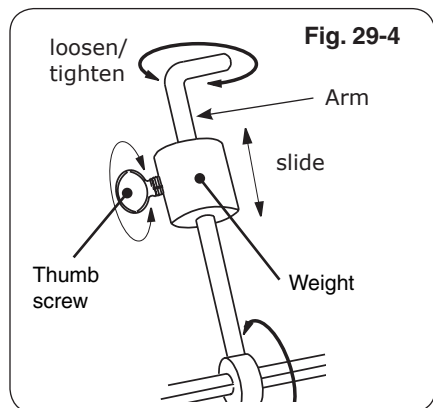

Fig. 29-4
7. Slide the counterbalance weight up or down the arm until the rod rotates most evenly then tighten thumb screw (Fig. 29-4 and Fig. 29-5).